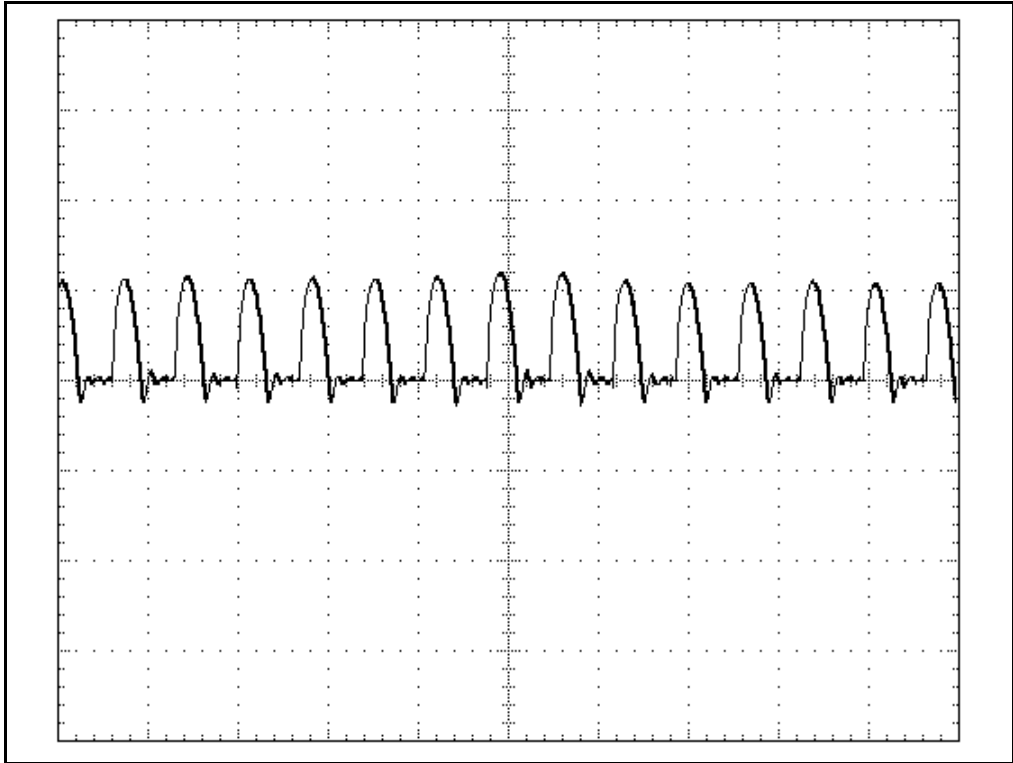
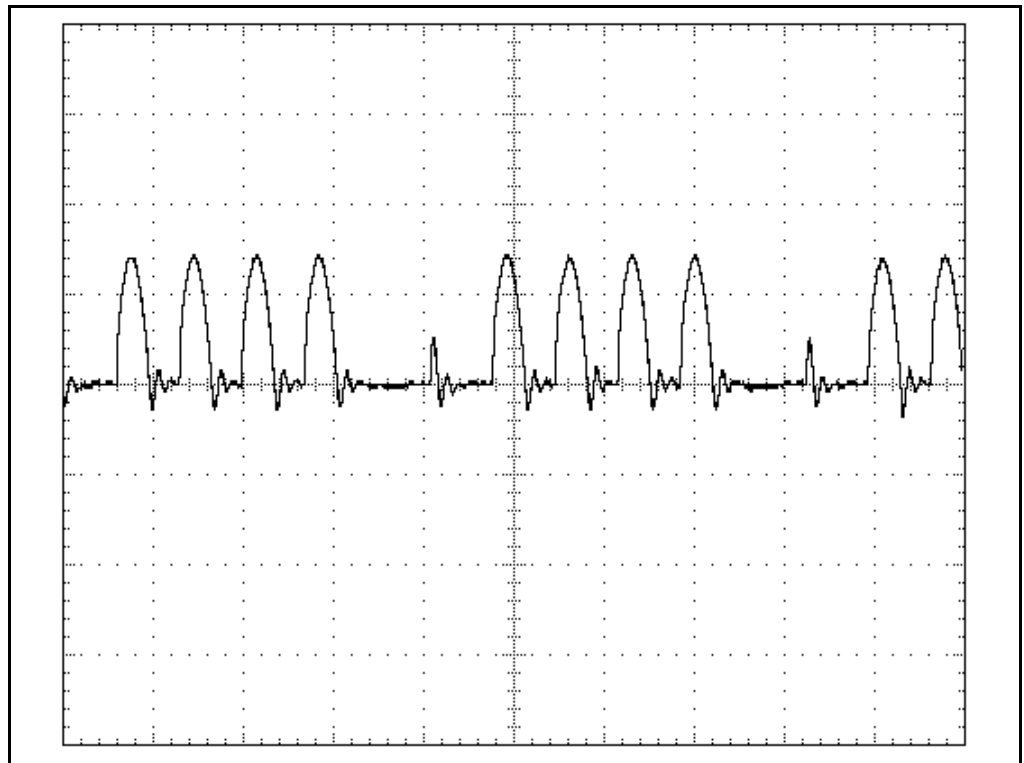

Figure 13.1 – SCR Armature Current During Normal Operation
Figure 13.3 – Thyristors Fail to Conduct
Under normal drive operation, the load carried by each SCR is relatively equal, as shown in figure 13.1.
Step 10. Set PHASE FIRE TEST DELTA (P.309) to 55 degrees. Slowly increase PHASE FIRE TEST DELTA until a steady pattern of “bumps” appears on the oscilloscope. If all thyristors in the selected bridge are operating, there will be six bumps per AC line cycle, similar to the example in figure 13.1. If any bumps are missing, one or more thyristors are not conducting, similar to the example in figure 13.3.